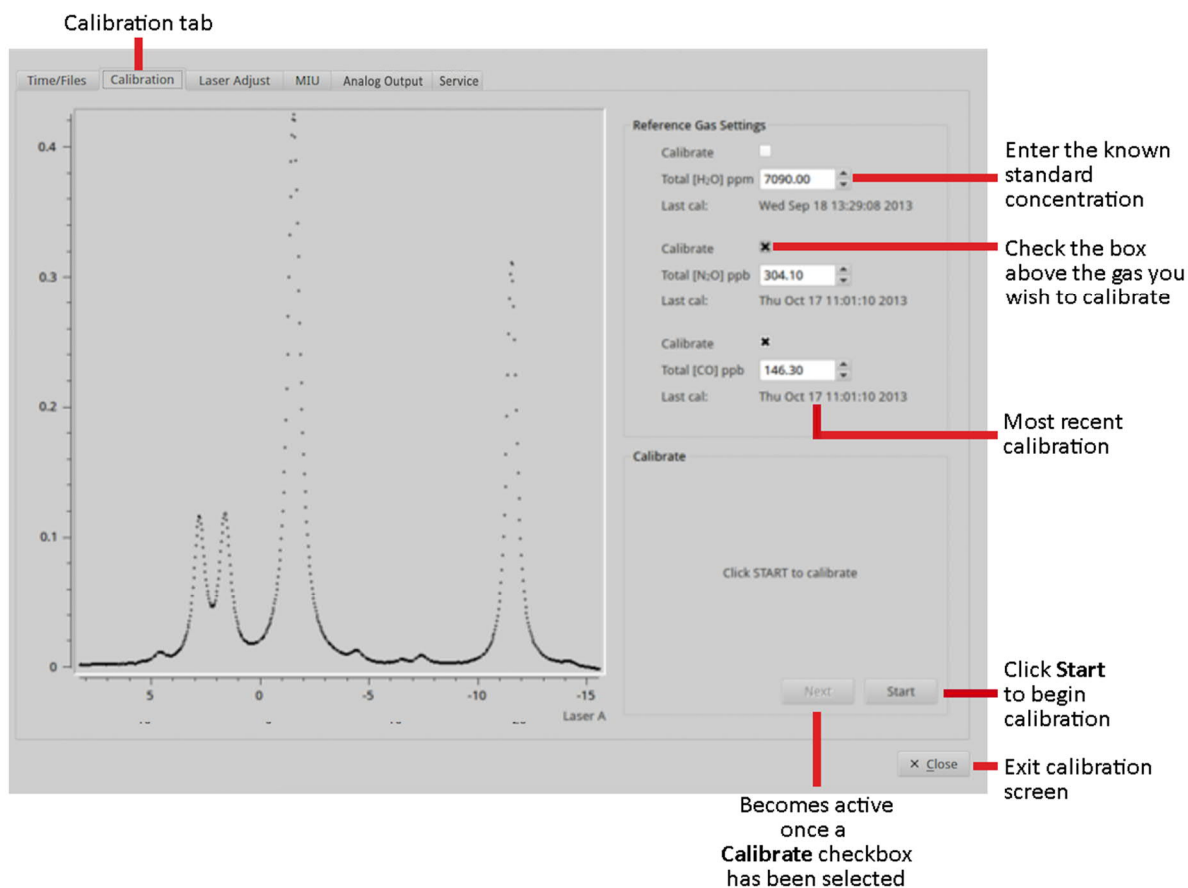

Figure 41: Calibration Setup Screen (GLA351-N2OCM)
2. Select the Calibration tab at the top of the screen to enter the *Calibration* menu. (Figure 41)
Figure 41 shows the *Calibration* screen for the GLA351-N2OCM.
7. Click the NEXT button on the lower, right panel of the screen to begin calibration. (Figure 41)